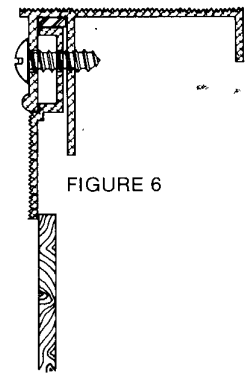

FIGURE 6
2. Fig. 6 through 9 shows the removal of the top door trim.